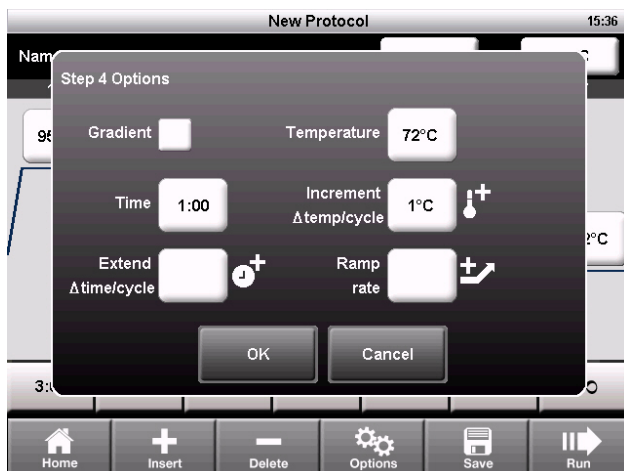

Fig. 9. The Step Options window.
1. Select a step, then touch **Options** to open the **Step Options** window (Figure 9).